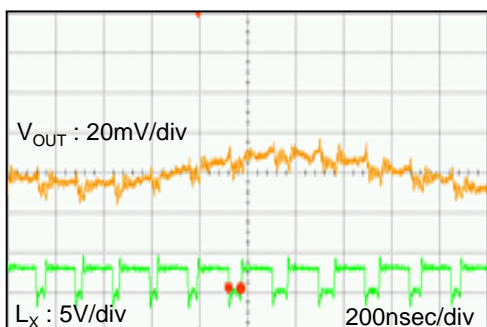
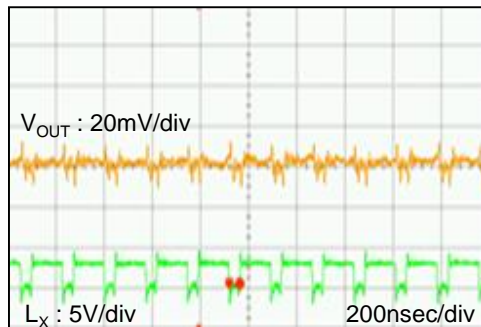

Fig.15-1 Insufficient C_L ($C_L = 10\mu\text{F}$)
Fig.15-2 Sufficient C_L ($C_L = 20\mu\text{F}$)
15. If the capacitance value is not sufficient by degrading C_L due to the low temp. condition and DC bias feature, the duty cycle might not be stable. Add capacitance value for C_L if necessary. (Refer to Fig.15-1, Fig.15-2)